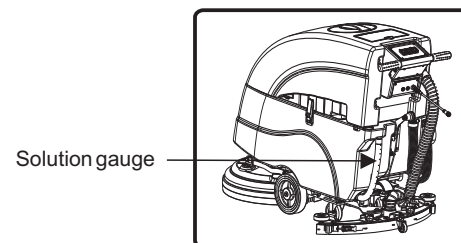
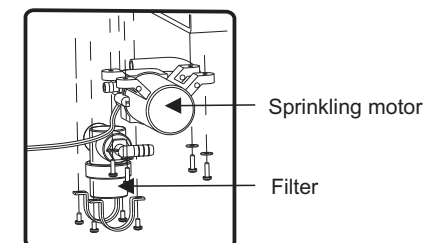

fig. 11
fig. 12
- If the machine will not be used for a long time or will be stored or in transit under the temperature below 4℃, take out the solution gauge to drain all the solution in the solution tank (fig. 11), in order to prevent solution from changing state. After this, remove the cover of filter. Then, press the sprinkling switch to drain all the solution stayed in the sprinkling system and clean the filter if necessary. Frozen solution in the sprinkling system, solenoid valve and the hoses will cause damage to machine (fig. 12).